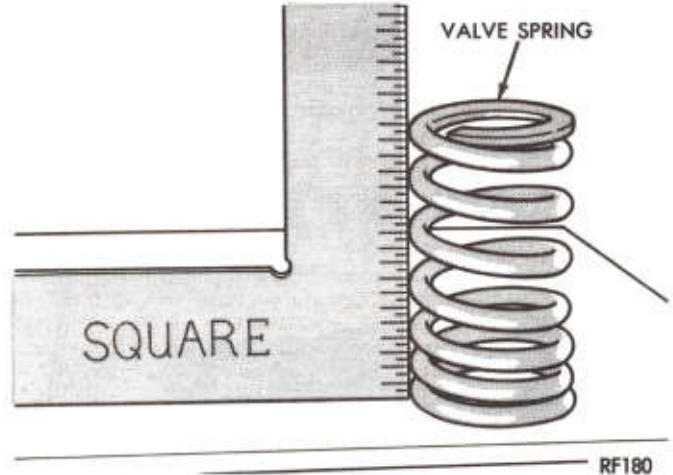

Fig. 20—Checking Valve Spring for Squareness
(2) Inspect each valve spring for squareness with a steel square and surface plate, test springs from both ends (Fig. 20).